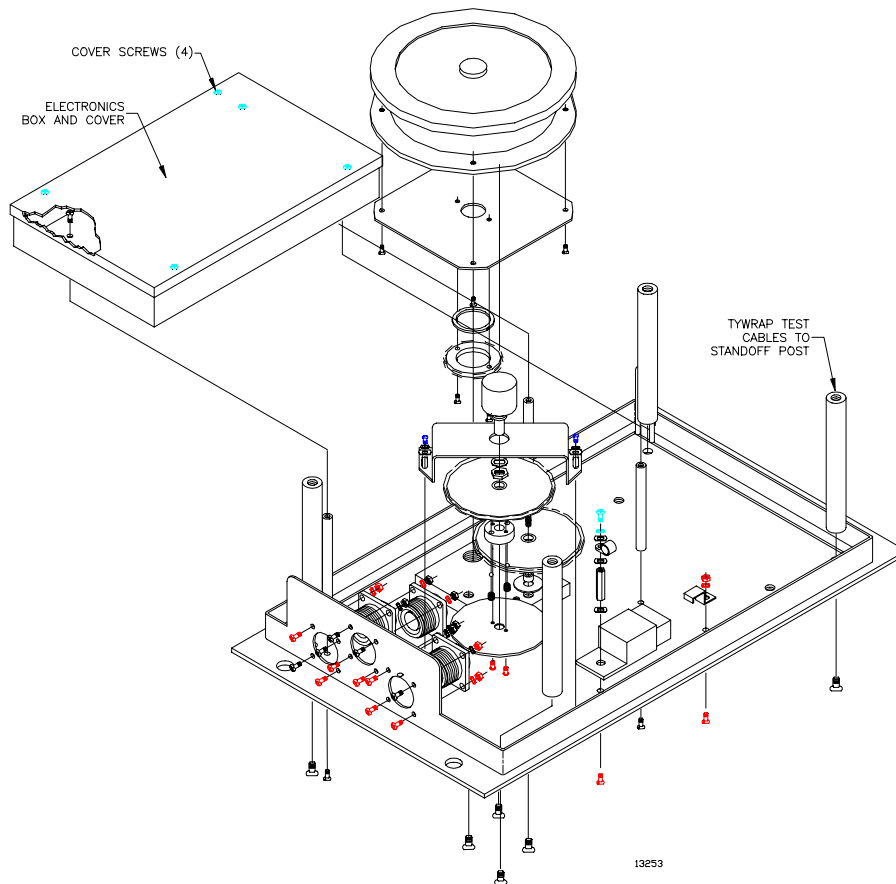
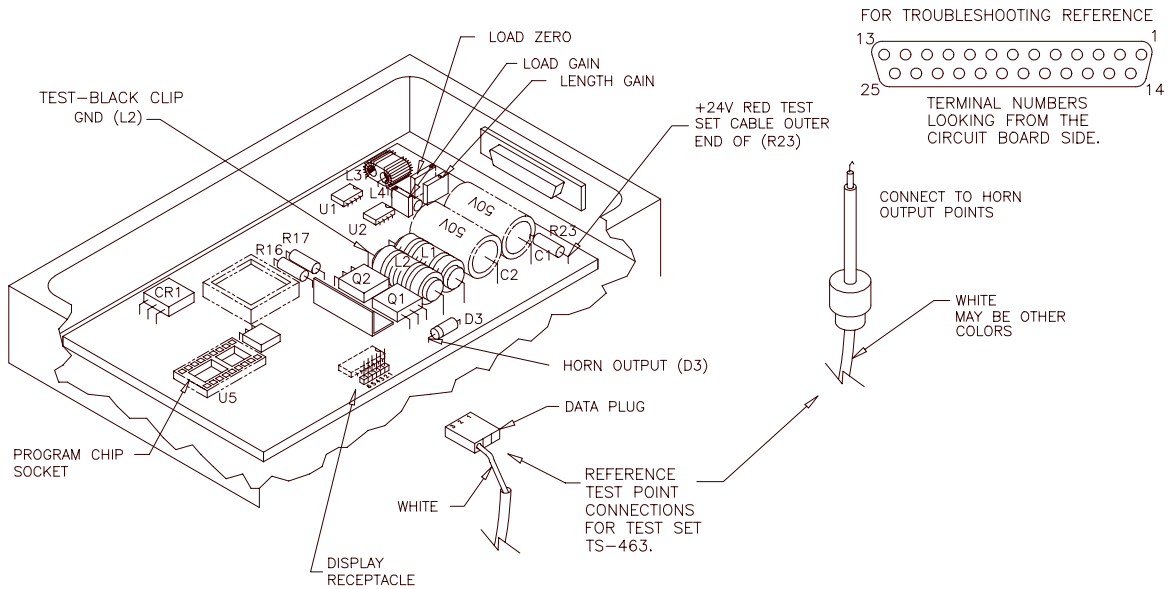
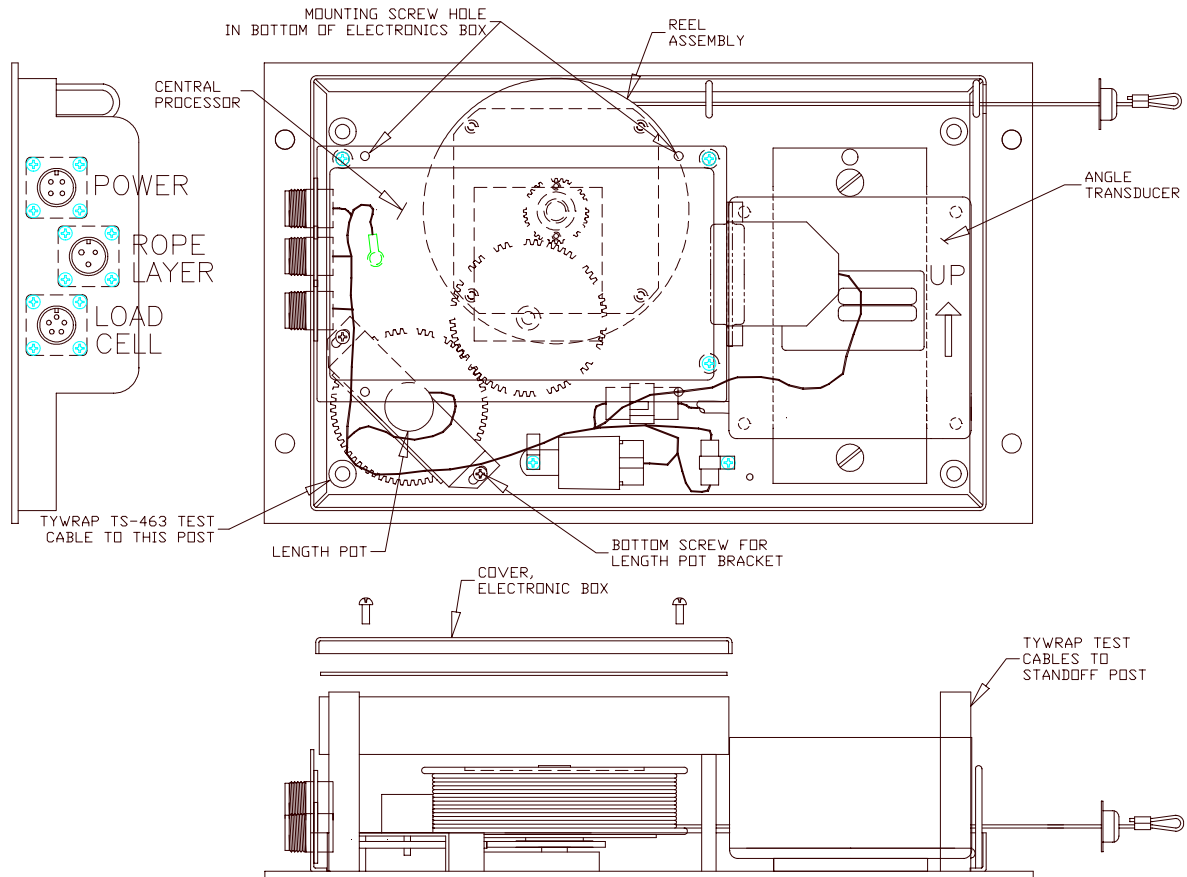

FIGURE 3: THE OSS-463E UNIT - EXPLODED VIEW (A9)
FIGURE 4: TS-463E CONNECTION TO OSS-463E (A7)
FIGURE 5: OSS-463E COMPONENT ASSEMBLY (A10)
| FIGURE 3 OSS-463E - EXPLODED VIEW | 6 |
| FIGURE 4 TS-463E CONNECTION TO OSS-463E UNIT | 7 |
| FIGURE 5 OSS-463E COMPONENT ASSEMBLY | 8 |
2. Remove the four 4-40 cover screws and cover from the **electronics box** (Figure 3) inside the OSS-463E Unit. (An internal view of the electronics box is shown in Figure 4.)
4. Bring the clips of the cable up to the electronics box. Strap the cable with one or two nylon “tyraps” to the cover stand-off post beside the pot gear assembly (Figure 5).
5. Push the data plug (Figure 4) on the six pin connector, with the white wire on pin 3. Clip the power leads on, as shown. ENSURE that the RED CLIP is on the OUTER END of R23. Connect the BLACK CLIP to the LEFT choke coil (Figure 4).
Refer to Figures 4 and 6.
If no numbers appear, ensure that the HORN IS OFF. If the HORN IS ON, a 5 second delay must run out before numbers appear. If numbers still don't appear, ensure that the data plug is correctly installed (Figure 4). If the display does not light up, refer to DISPLAY DOES NOT LIGHT UP, page 10.
Refer to Figures 4 & 6.
Refer to Figure 5. Remove the top cover and the electronic cover. Mount the unit with three #6-32 x 3/8 screws. Connect the TS-463E Test Set (Figure 4). Plug in the load cell, rope layer switch, and power plug (Figure 5).
Refer to Figure 5. Loosen (about 1 turn) the 6-32 screw holding the bottom end of the length pot bracket. Pull the bracket down, toward the bottom, disengaging the pot gear from the idler gear.